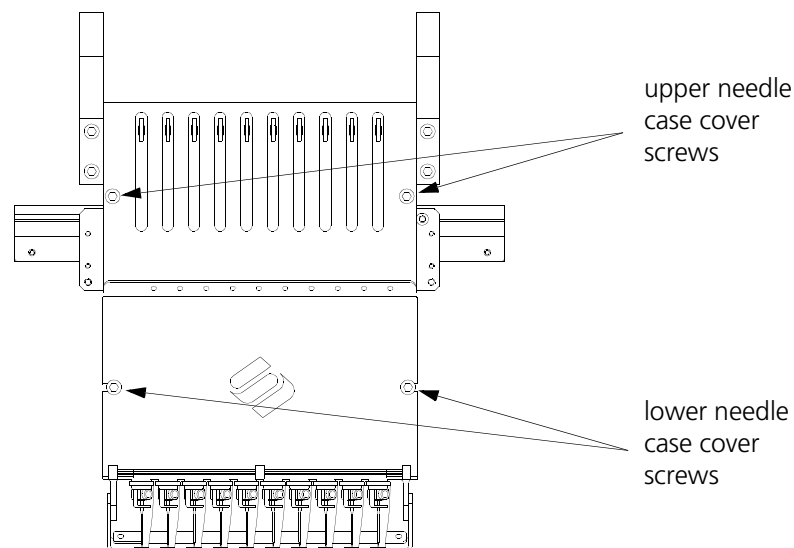

Figure 3-15
4. Remove the 2 screws holding the upper needle case cover plate and set the cover plate aside (see Figure 3-15).